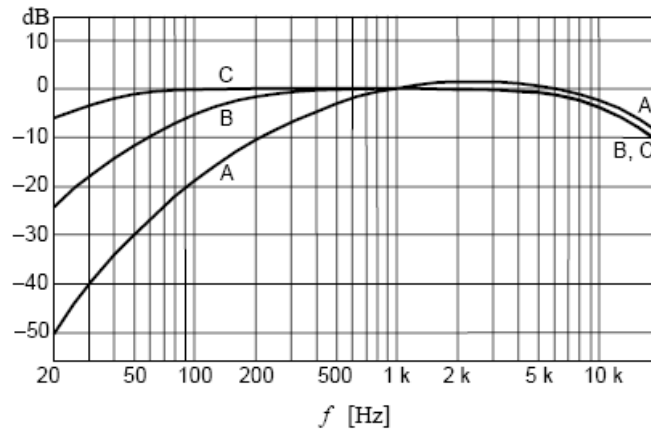

Figure 2.11 A, B and C frequency weighting (IEC 60651)
The same dialog box has a section 'Power - Weighting', where user chooses to apply, to input signal, one of IEC 60651 standard weighting filters (type A, B or C). Appropriately, the level labeling is appended with the text (A), (B) or (C). The frequency response of these weighting filters is shown in Fig 2.11.